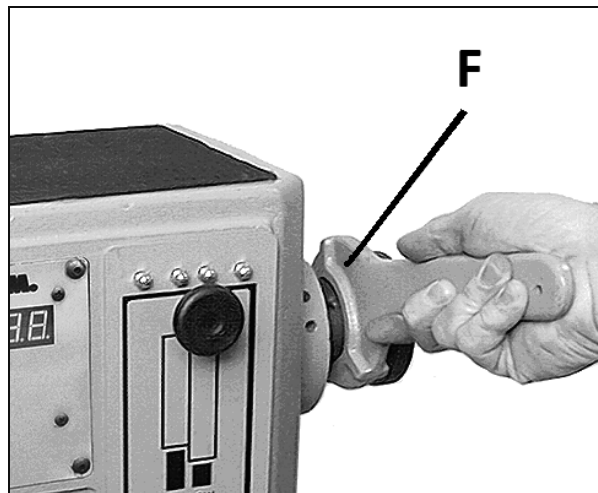

Fig 32
Remove the faceplate by loosening two set screws (E). Push in the spindle lock and use the provided open spanner (F, Fig 32).